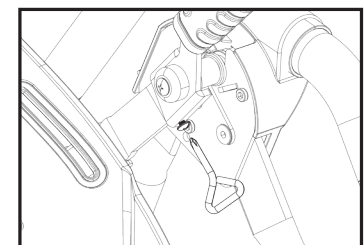

Figure 4
- **Figure 4.** Tighten the De-Rattler Screw. Only tighten the screw until the Traction Handle is reduced of excess movement. Part of the screw may still protrude from the Traction Handle.